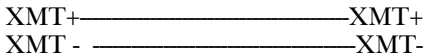

Figure 4-4. Transmit Pair.
6. In a single-pair circuit, use only the transmit (XMT) pair as shown in **Figure 4-4**.